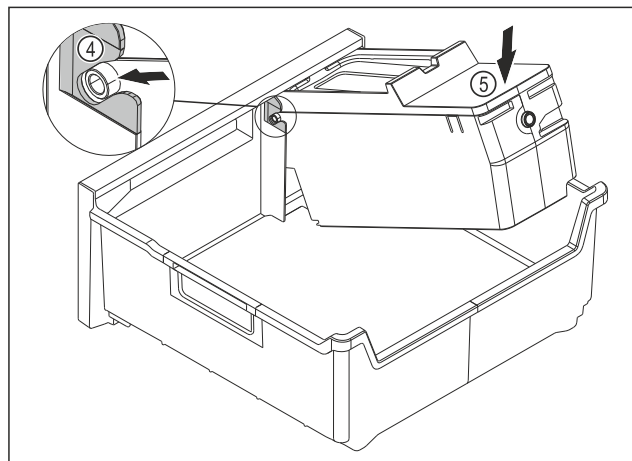

Fig. 100
- Installing the EasyTwist-Ice body: Push the axes for the EasyTwist-Ice body into the guides Fig. 100 (4).
- Press the EasyTwist-Ice body Fig. 100 (5) down at the back.